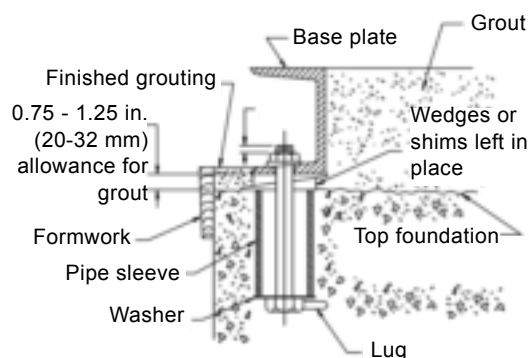

Fig. 1 Anchor bolt installation
3. Place anchor bolts in pipe sleeves for positioning allowance. See fig. 1.
6. Construct formwork around the concrete foundation and pour grout inside the base plate, as shown in fig. 1. The grout will compensate for uneven foundation, distribute the weight of the pump, and prevent shifting.